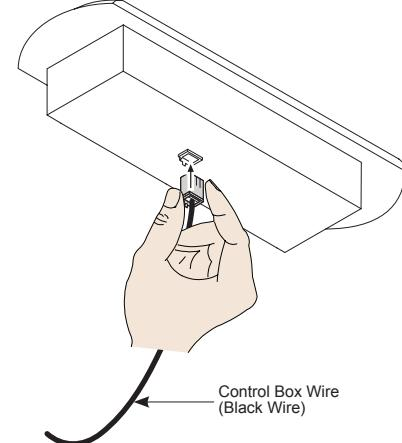

Figure 4 - Control Panel
- 1 Insert the wire connector into the back of the control panel (Figure 4).